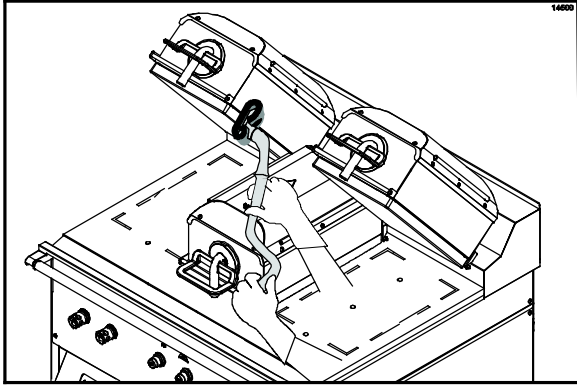

Figure 59
30. Scrub the inner edges of the right and left platens. (See Figure 59.)